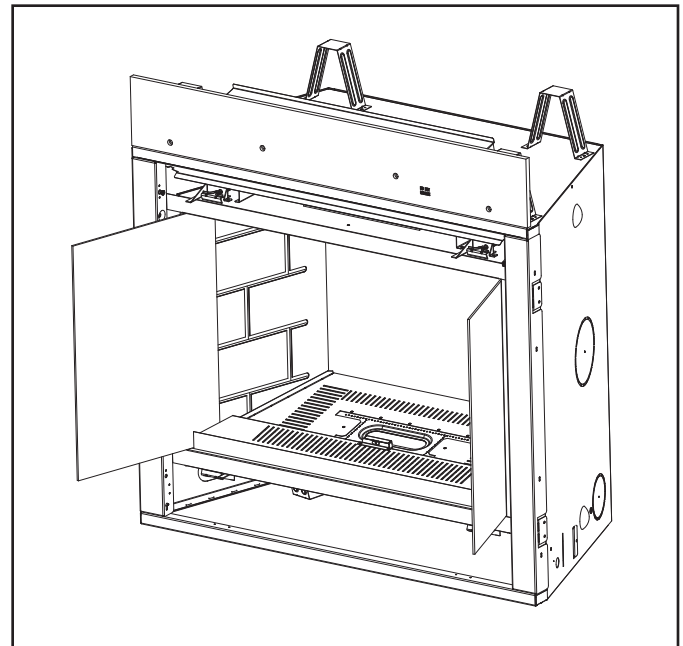

Figure 14.2 Install Side Glass Panels
2. Slide the side glass panels in positions as shown in Figure 14.2.